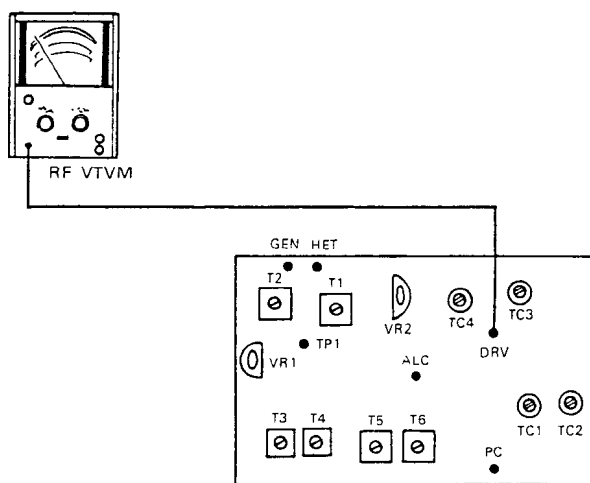
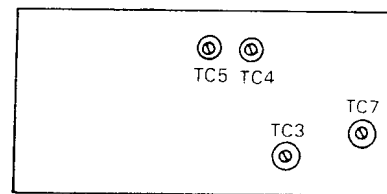

Fig. 23 MIX unit
Fig. 24 Final unit
Have the RF VTVM connected as shown in Fig. 23.
- 3) Adjust TC3, TC4, TC5 and TC7, shown in Fig. 24, and also TC3 and TC4, shown in Fig. 23, to obtain the largest possible output. (Repeat the foregoing sequence several times, each time adjusting the FINAL control to maximize the output.)